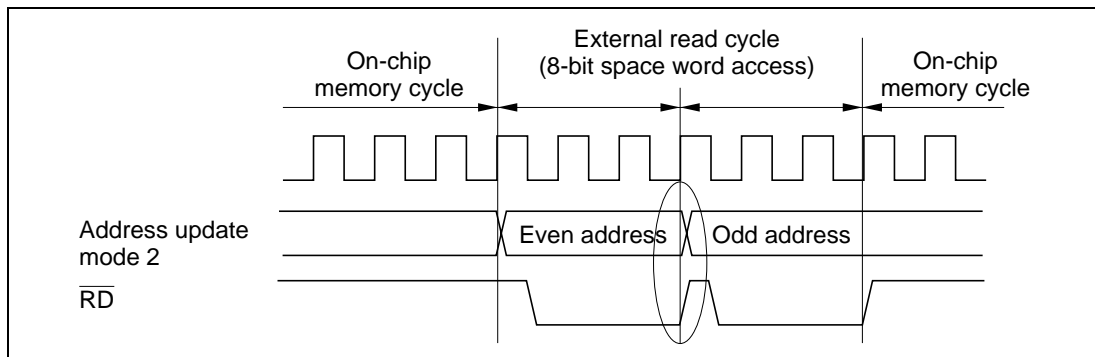

Figure 6.6 Example of Consecutive External Space Accesses in Address Update Mode 2
- In order to secure address holding with respect to the rise of \overline{RD} , when address update mode 2 is used an external space read access must be completed within a single access cycle. For example, in a word access to 8-bit access space, the bus cycle is split into two as shown in figure 6.6, and so there is not a single access cycle. In this case, address holding is not guaranteed at the rise of \overline{RD} between the first (even address) and second (odd address) access cycles (area inside the ellipse in the figure).